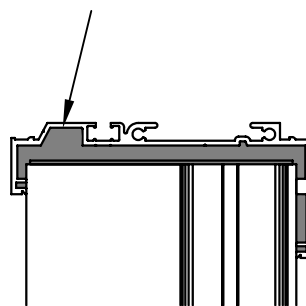

FIGURE 5
- STEP C:** Install the jamb, plumb and shim as required. Drill and countersink anchor holes as required in the glass pocket. Apply sealant along edge of jamb and sill receptor and into glazing pocket, tool as required. (Figure 2) Apply sealant between the top of the jamb and the head receptor and tool as required. (Figure 5)